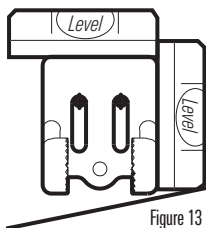
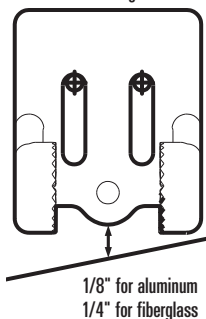

Figure 13
Figure 14
2. Hold the mounting bracket against the transom of the boat in the location you have selected (Figure 13). Align the bracket horizontally, using the level. Make sure that the lower screw hole protrusion does not protrude past the bottom of the hull, and there is at least 1/4" (6 mm) clearance between the bottom of the bracket and the bottom of the transom for fiberglass boats, and 1/8" (3 mm) clearance for aluminum boats (Figure 14).